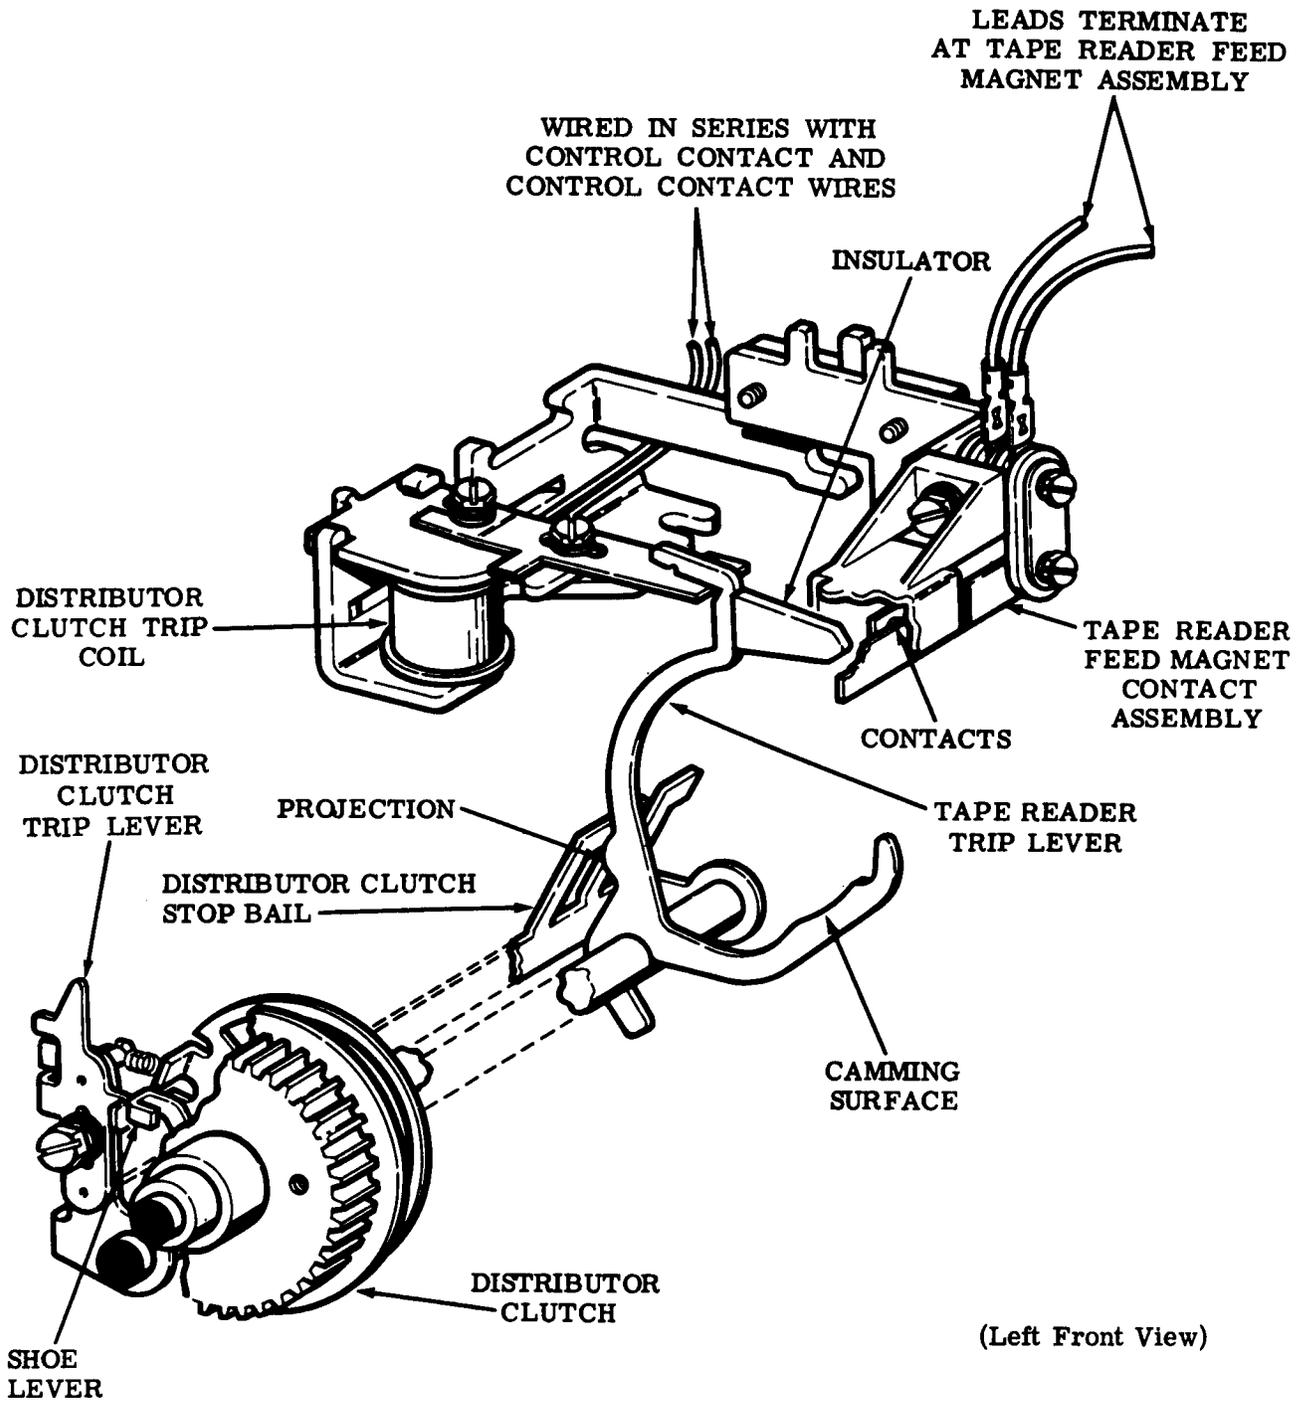
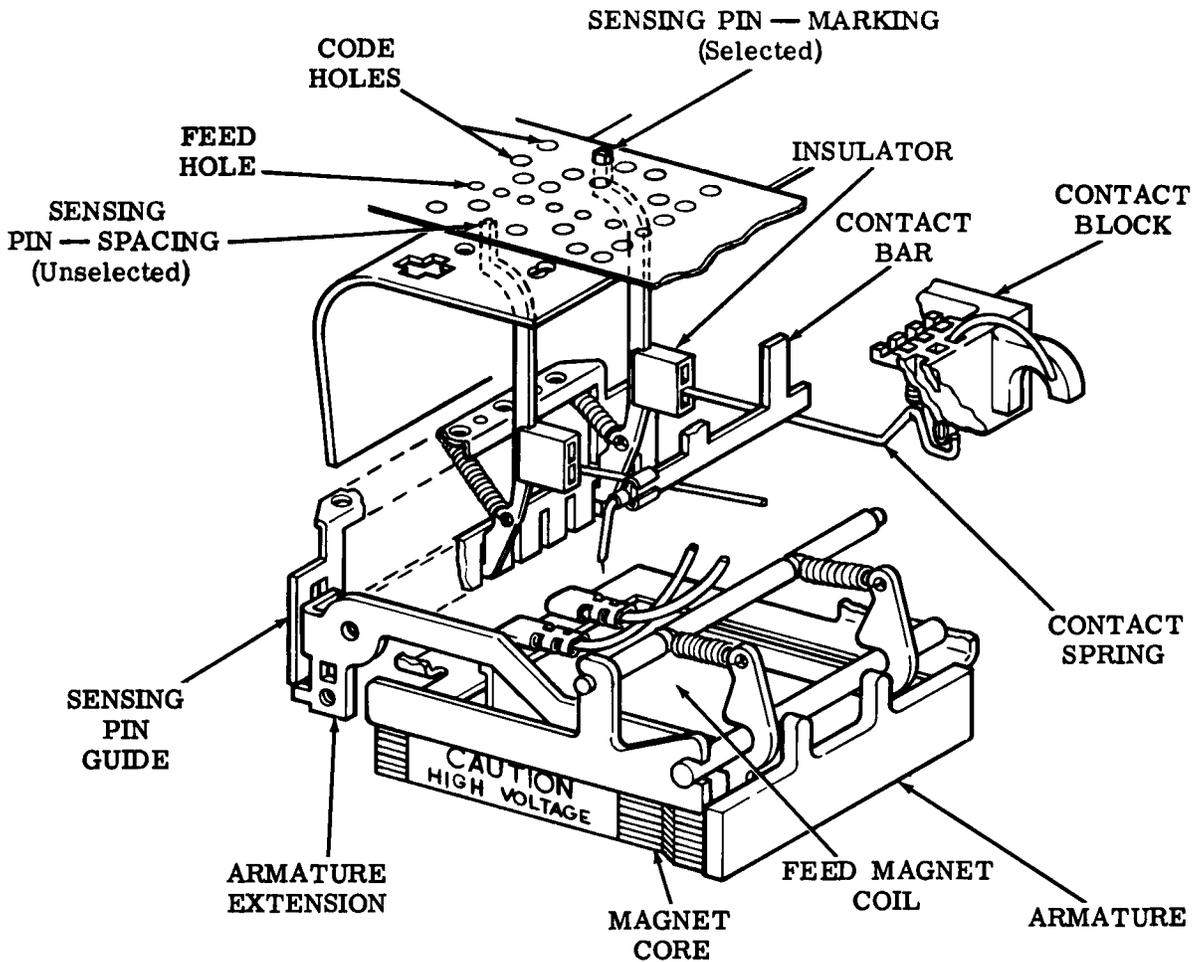

Figure 5 - Distributor Clutch Trip Mechanism
Figure 6 - Feed Magnet and Sensing Pin Guide
contacts are wired in series with the distributor clutch trip coil in the typing unit, the coil energizes and releases the tape reader trip lever (Figure 5).
3.08 When released, the reader trip lever performs two functions: It closes the tape reader feed magnet contact assembly and trips the distributor clutch. The reader feed magnet contact assembly is closed by an insulator on the back of the tape reader trip lever. In its travel, the tape reader trip lever rotates the distributor clutch stop bail by means of a projection. This motion is carried to the distributor clutch trip lever which moves away from the shoe lever. The distributor clutch engages and the distributor cycle begins (Figure 5).
3.09 With the feed magnet contacts closed (Figure 5) the feed magnet in the reader mechanism is activated. The energized feed magnet coil attracts the armature (Figure 6). Rotating about its pivot the armature raises the armature extensions. Fastened to the ends of
upward travel and its associated spring remains unstretched; where no hole exists in the tape (spacing) the sensing pin travel is blocked and its associated spring becomes stretched (Figure 6).